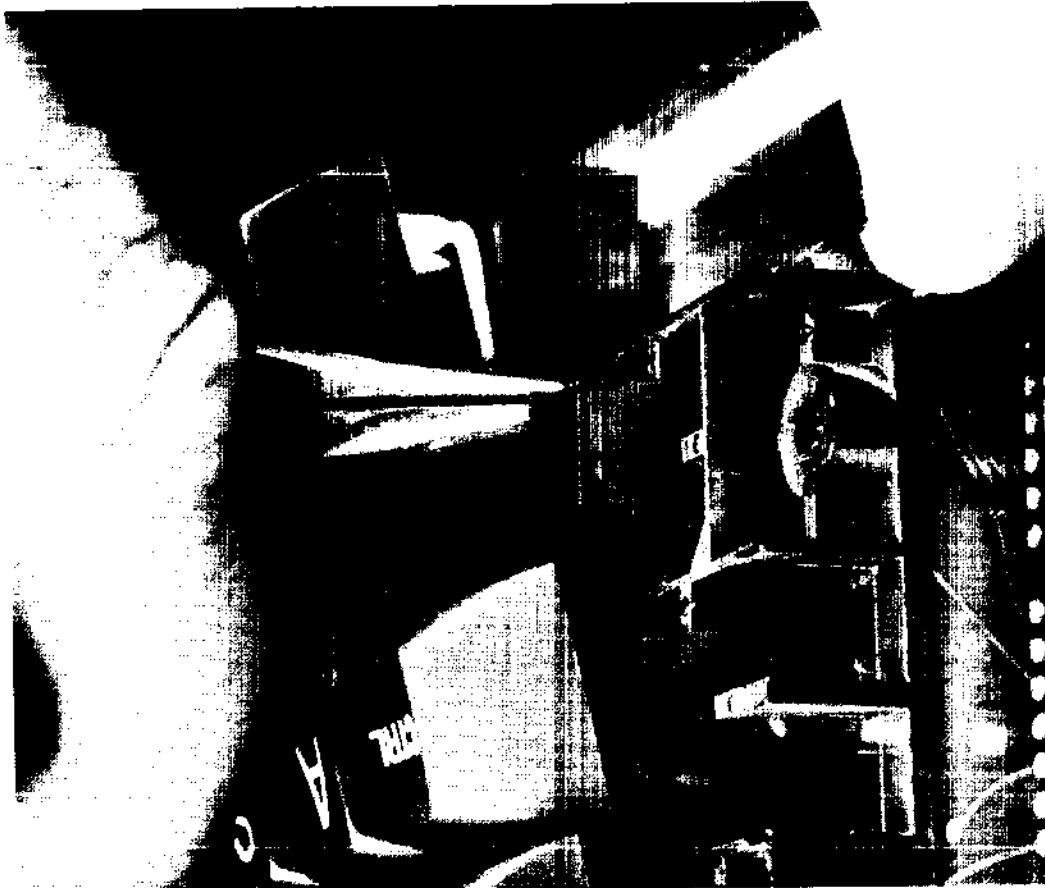

Figure 5-5
- d. With the pliers, firmly grasp the plunger in the corner (see figure 5-5). Pull straight up with a firm pull.